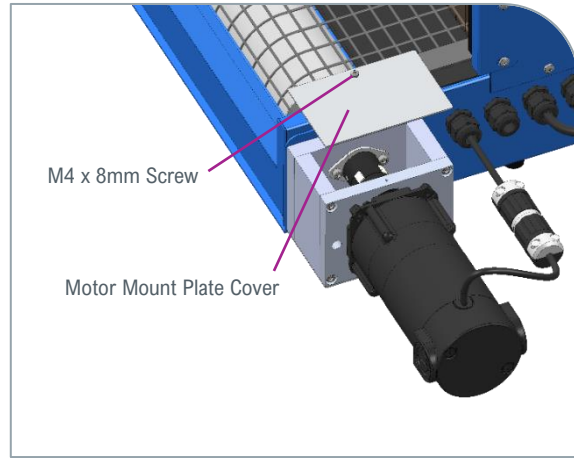

Figure 3. Remove Motor Mount Plate Cover
2. Remove the Motor Mount Cover Plate and M4 x 8mm screw (Figure 3). Set aside for later use.